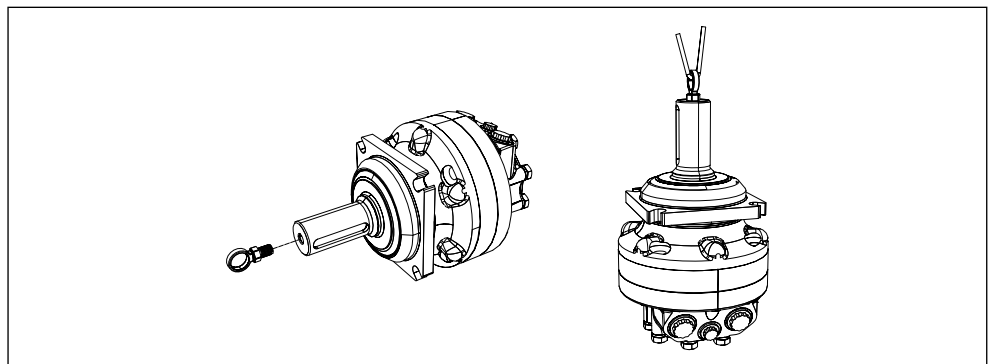

Fig. 13: Fixing the eye bolt
- ▶ The eye bolt should be screwed fully into the female thread in the end of the drive shaft, the motor may then be hoisted as indicated in Fig. 13 below.